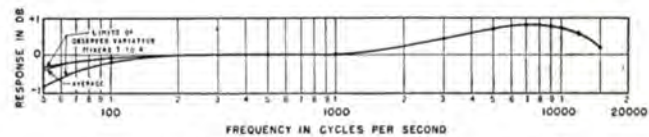

Figure 14 — Typical frequency response characteristics.
- Frequency Response:** See Figure 14.